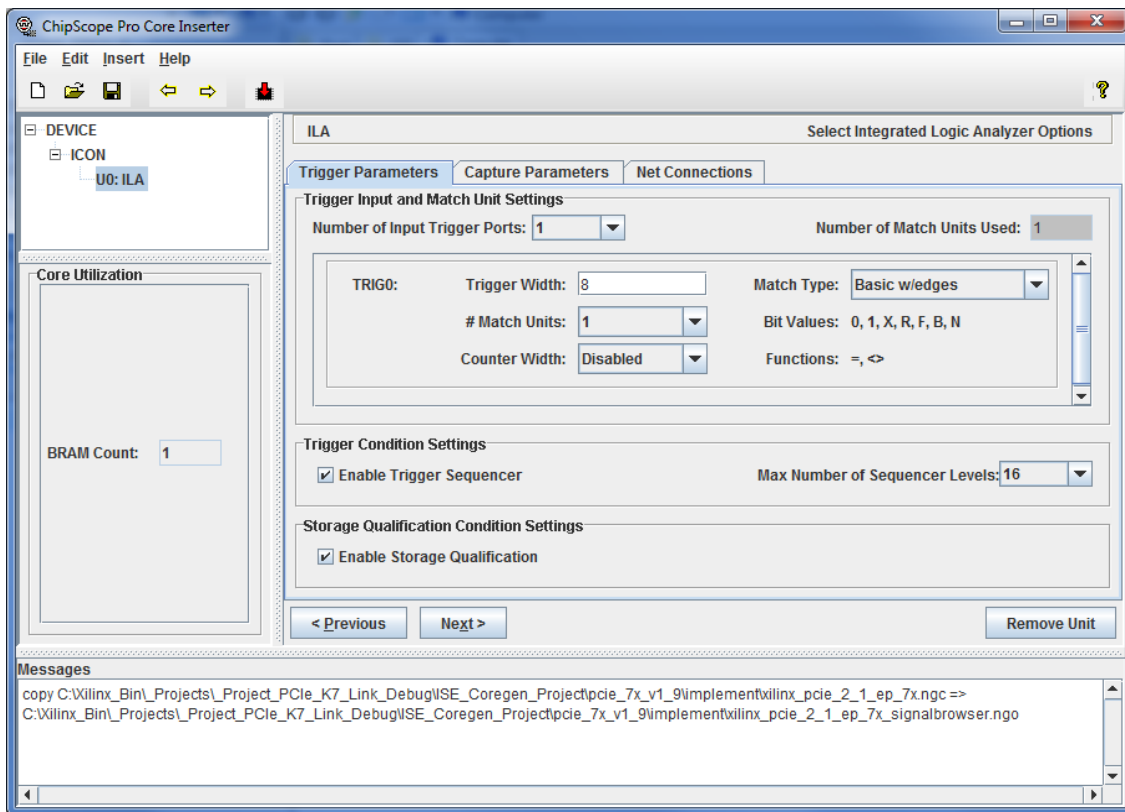

Figure 81: Chipscope Pro Inserter - Integrated Logic Analyzer Options
- Select trigger width as required (Figure 81).